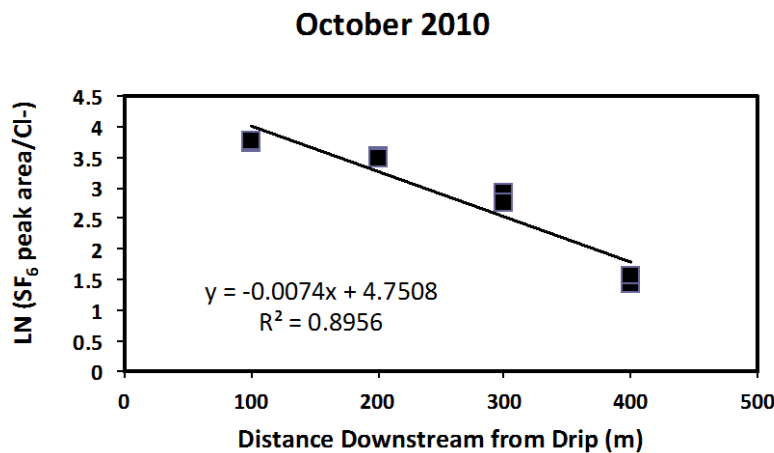

Figure 13. Example SF6 loss rate data calculation.
- a. Plot the natural log (LN) of the RATIO of the tracer gas concentration (or GC peak area) to the background-corrected Cl concentration (Y-axis) by Stream Distance (X-axis) (Figure 13).